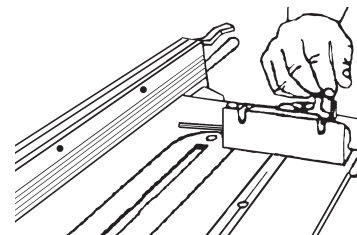

Figure 68
2. Place the Miter Gauge in the Left Slot of the Worktable on the infeed side. Insert the Long 5/32" Allen Wrench through the Miter Gauge and secure it using a Short 5/32" Allen Wrench and a Set Screw borrowed from the Lathe Tool Rest, as seen in Figure 68.